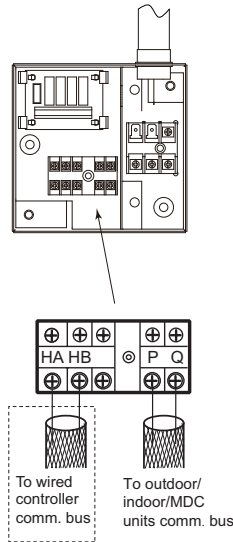

Fig. 28 —Communication Wire Connection
- See Fig. 28 for an example of communication wire connection.